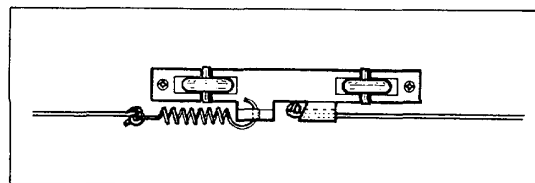

FIGURE 5-10. NYLON CABLE (ATTACHMENT TO PEN BLOCK)
- c. Attach free end of tension spring to the hook on pen block. Insert knotted end of new nylon cord assembly in groove of pen block. See Figure 5-10.